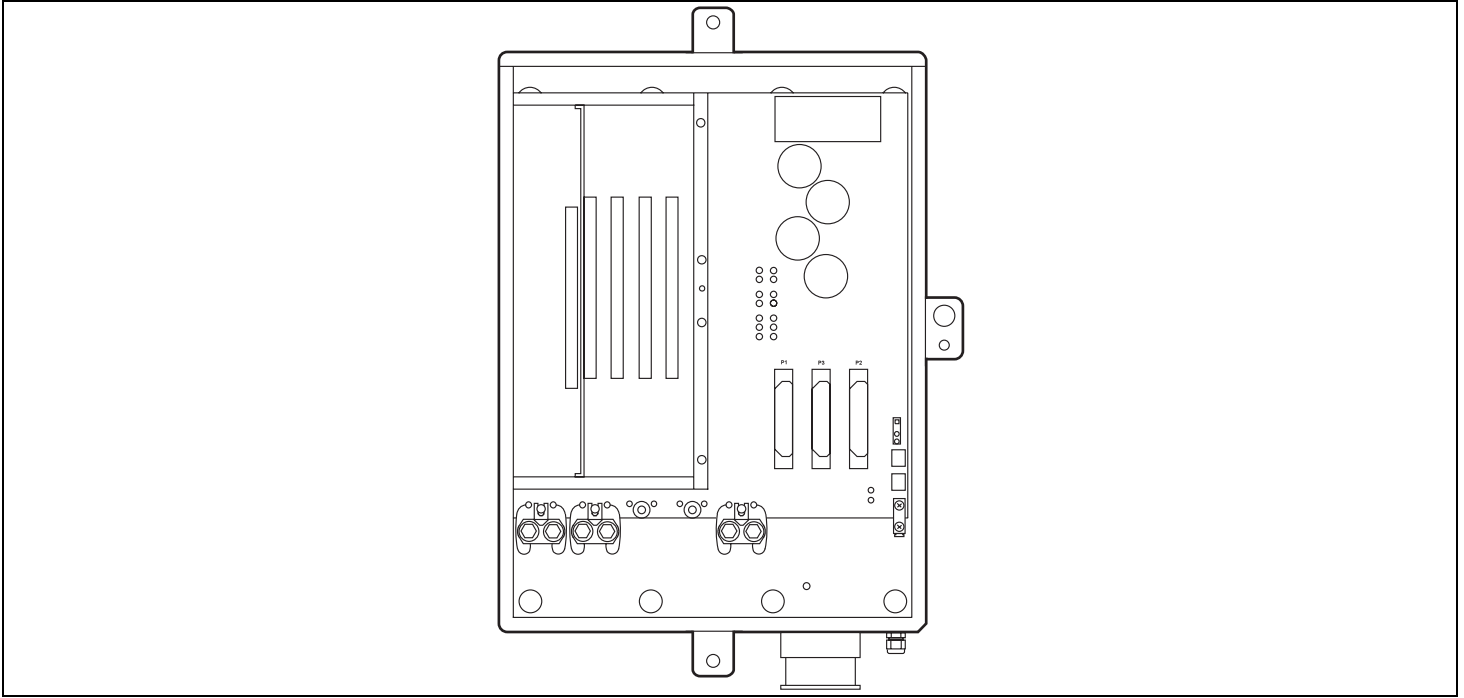

Figure 1. Inside view of the FRE-765, List 2 RT Enclosure
6.01 The backplane of the FRE-765, List 2-series RT Enclosure (Figures 1, 2, 3, and 4) contains the following connectors and fuse: